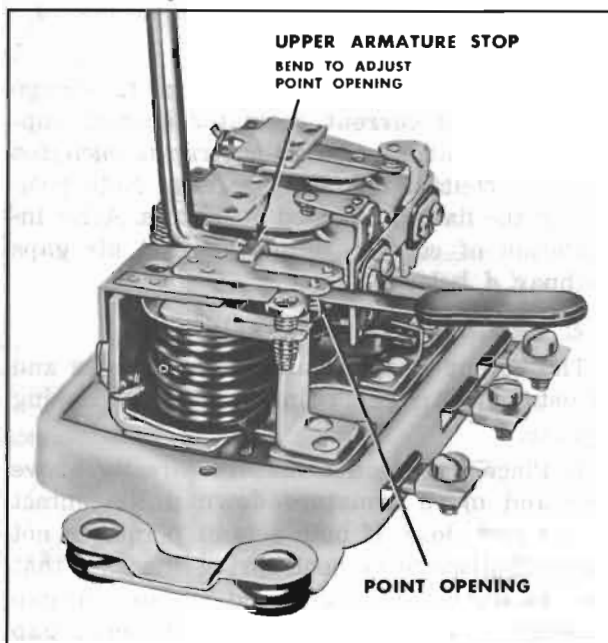

Figure 10-22—Adjustment of Cutout Relay Contact Point Openings
2. Check contact point opening with feeler gauges. Opening should be .020". Increase or decrease point opening, if necessary, by bending the upper armature stop. See figure 10-22.